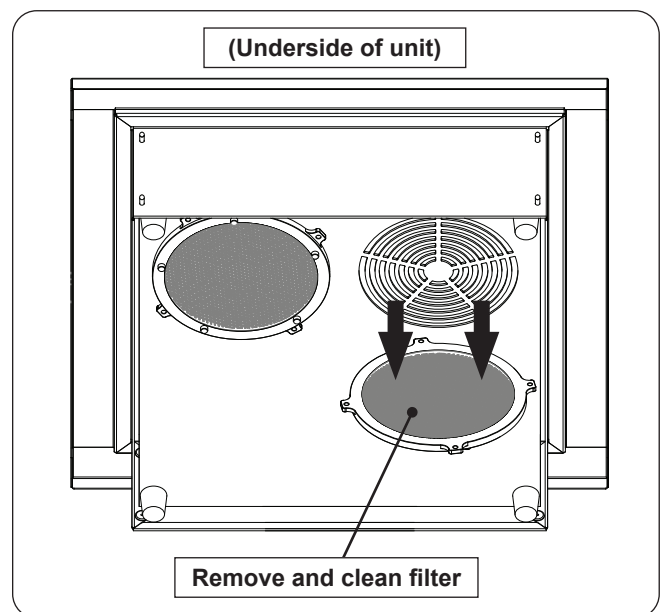

Fig. 34-1 Clean Filters
2. **Remove filter:** While holding the unit, locate the filters (underneath the unit) and pull them off. See Fig. 34-1. The filters clip onto the outmost vent rings via plastic clips that allow for easy removal and installation.